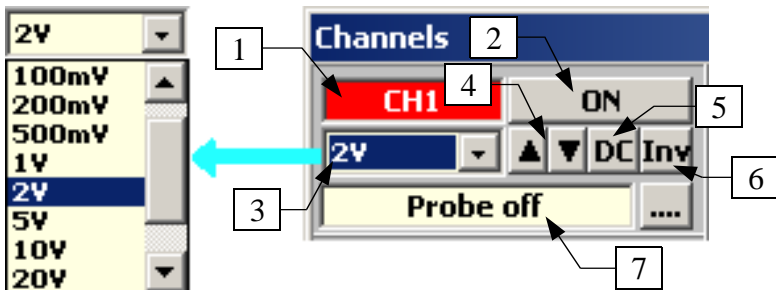

Figure 7.3
On the Figure 7.3 you can see the parameter settings window. The procedure of changing setting is the same for all channels, so we will use Channel 1 (CH1) for explanation.
4. *Change measure range* : Using these icons you can change the measuring range from 50mV/square to 100V/square. You can also change it using the scrolling menu in Figure 7.3.
7. *Probe selection:* The waveform in the main window usually represents voltage and time. To measure different values, such as current or pressure, you need special probes. If there is a sign Probe Off in window 7 on the Figure 7.3, no probe is connected and the input voltage is shown on the screen with no modification. A window with a list of available preset probes appears if you click on the icon next to the window 7. These probes are made by the TSPro's